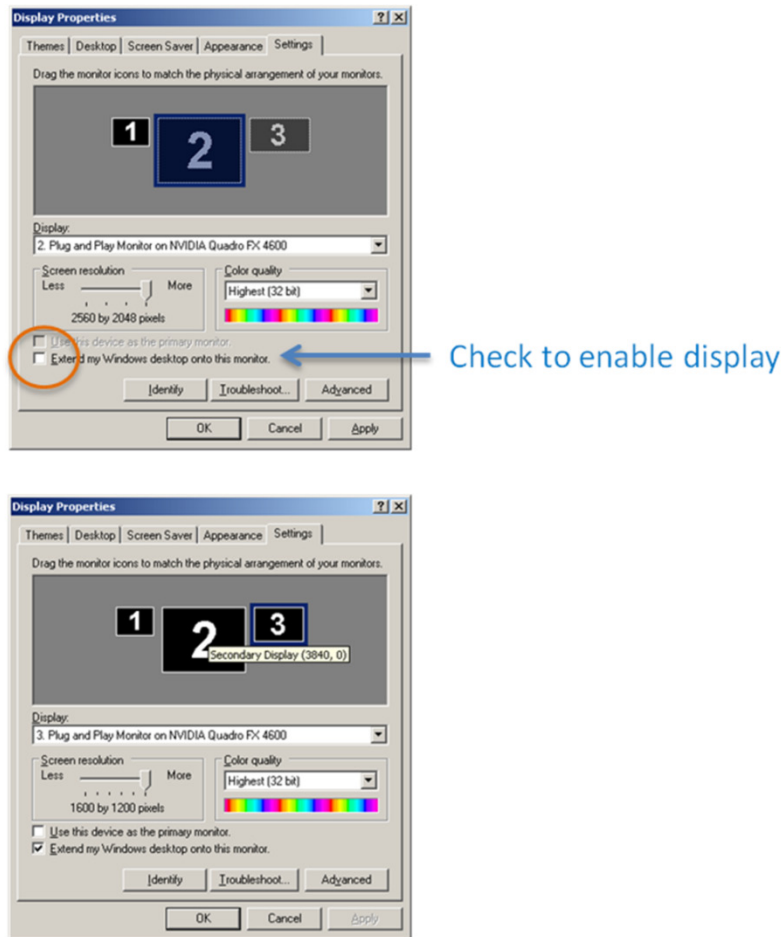

Figure 8. Display Properties Before and After Displays are Enabled
3. Check the **Extend my Windows desktop onto this monitor** checkbox for each display as shown in Figure 8.
Running this enumeration code on our 3 display example (shown in Figure 8) prints out the following.